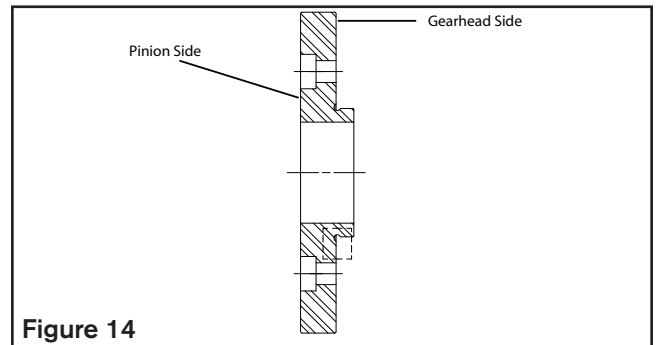

Figure 14
5. Clean the adapter flange and pilot where it will contact the gearhead flange inspecting for contaminates, burs, or surface defects that would interfere with full contact between the adapter and gearhead flange. See Figure 14.